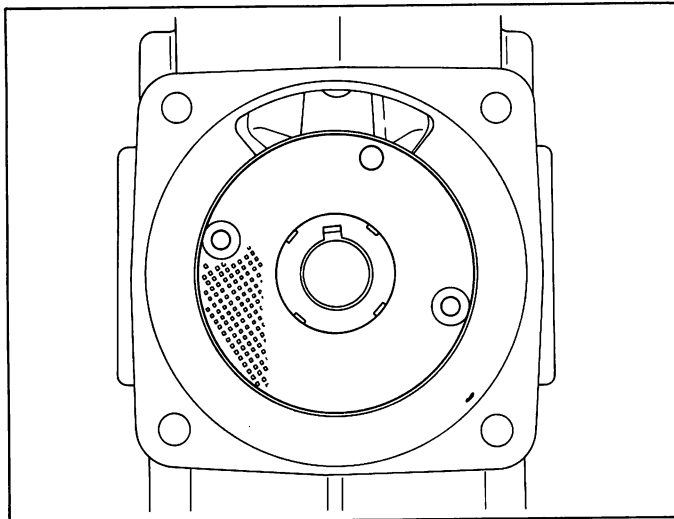

Fig. 40 Liner and cover hole alignment
5. Before tightening the feed pump cover (9), ensure that all three holes align with the liner holes, and that the discharge hole faces the top of the injection pump i.e. the governor side. (Fig. 40)